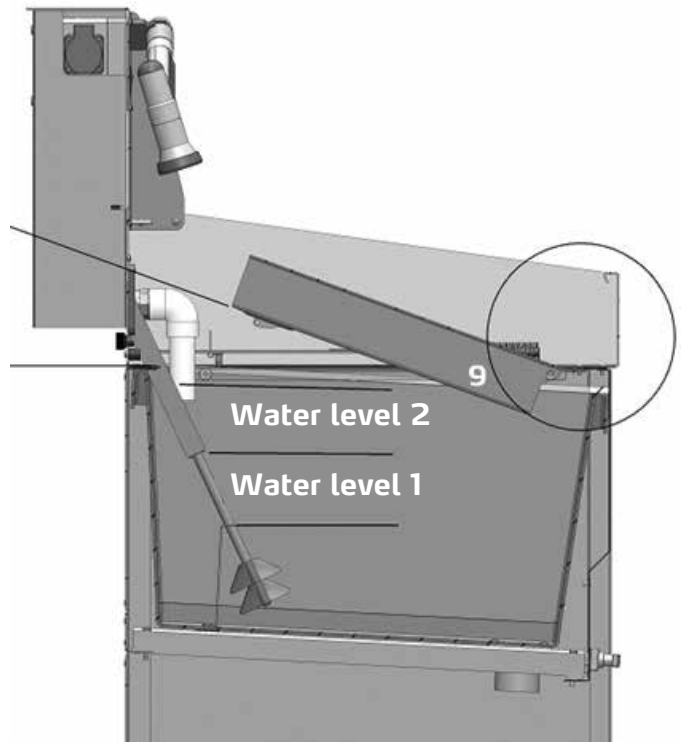

Fig. 4
- Clean rollers in the roller prewash basin (wash basin = optional accessory) (9) Fig. 4
Before the washing water can be treated during further operation, a minimum water level must be available (water level 1) Fig. 4.
See figure 4. The tank with the mounting brackets (9) is placed at an angle of about 20° diagonally on the mounting spigots.